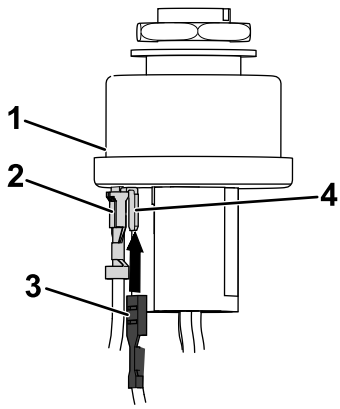

Figure 18
3. Connect the spade terminal of the machine wire harness to the piggy back terminal of the harness adapter (Figure 18).